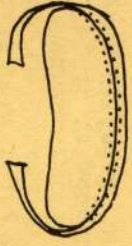

Fig. 11
3. Stiffener cardboard when covered with lining must be the same size as No. 2 piece. Cement all together. Now cut a piece of 6 oz. leather 1" wide and long enough to go around No.2 and No.3 pieces and butt together at the back. Cement in place and cut the lock strap from 6 oz. leather 1 7/8" long and 1" wide. Cement it in the centre of lid at the front, using "Barge" or other similar cement. Mark and stitch this in when sewing the lid together. Also put a rivet in the lock strap. Proceed the same as you did when sewing in the bottom. (Fig. 11)
Fig. 11 shows strap part of lid being attached to lid assembly. Ends are butted together at the back and when lid is closed fits around top of case.